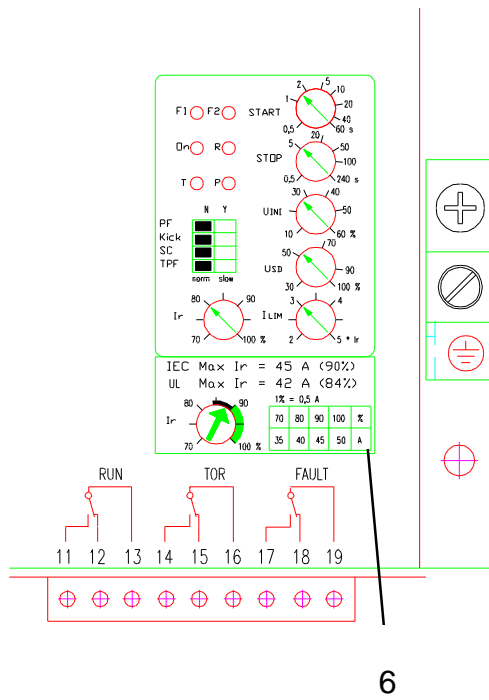

Fig3.
Change the label (6) for the current setting (see fig 3).